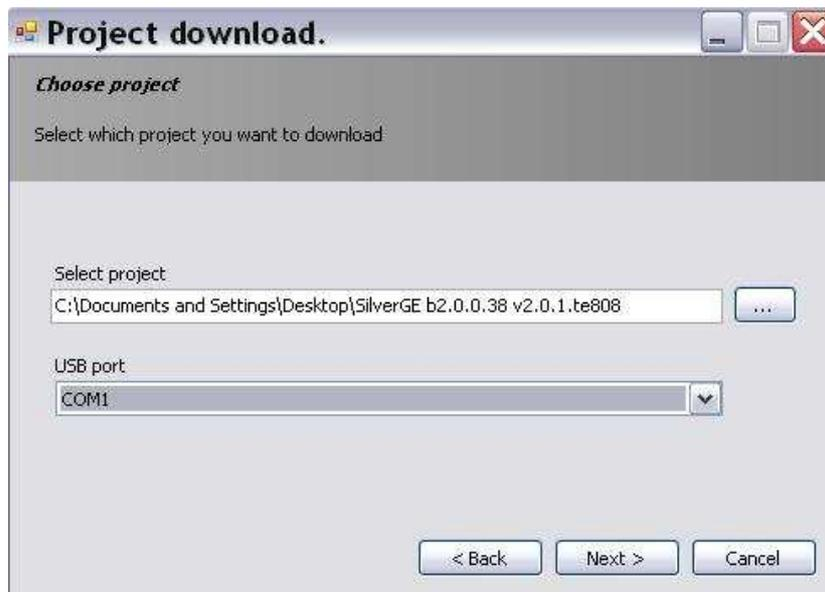

fig. 4
- Press "Next" and select the project for download from the folder **Project**. As you can see in Figure 4, the file will have extension "te808.